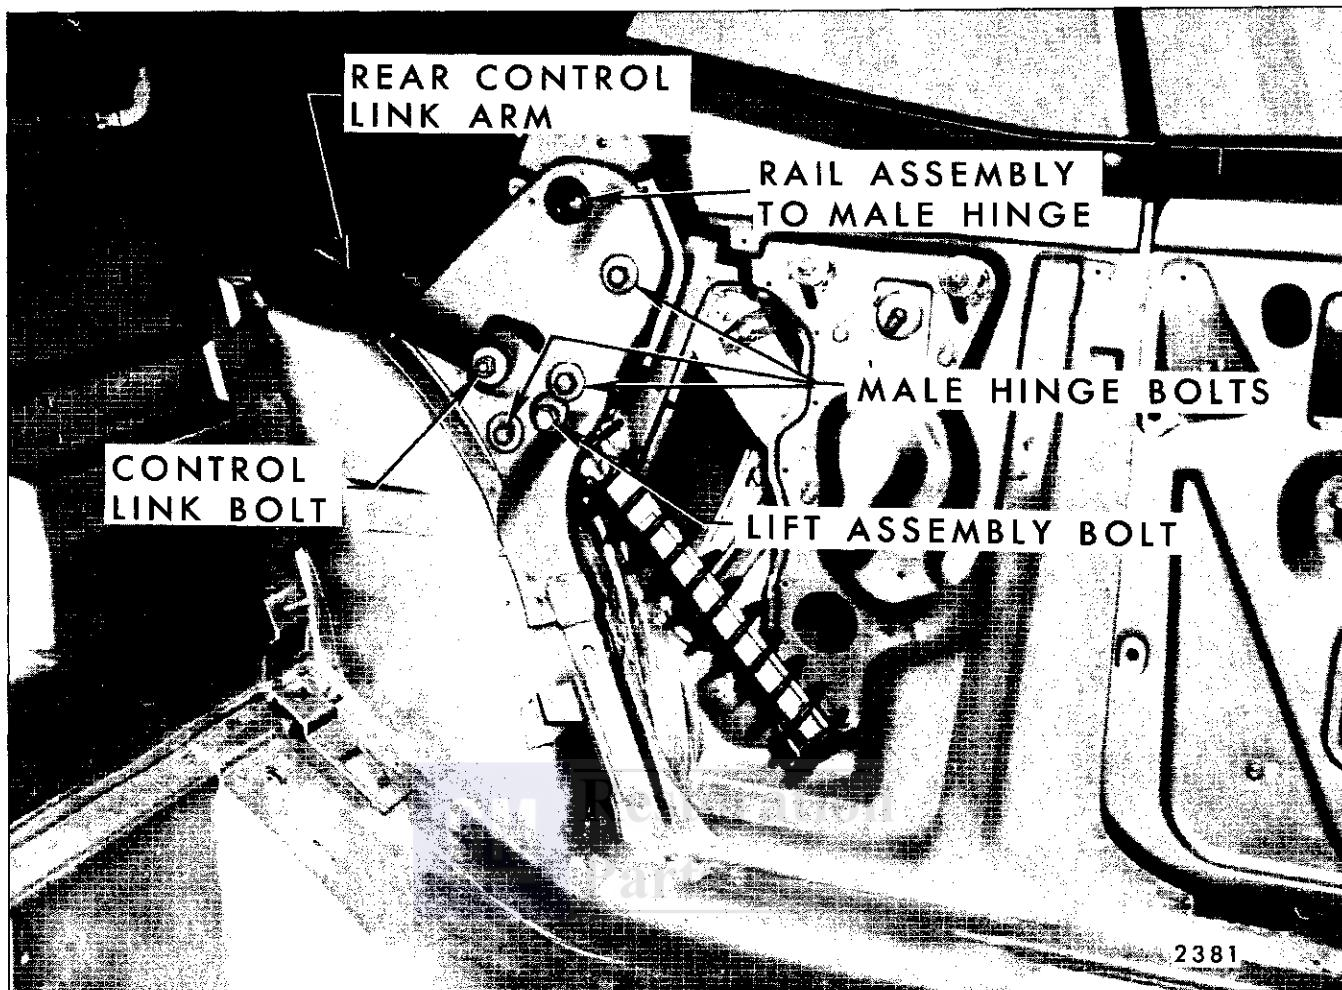

Fig. 13-82—"F" Body Convertible Top Linkage Attachments
- b. Loosen one bolt securing control link sufficiently to permit adjustment of link (See Fig. 13-82).
- b. Loosen male hinge assembly (Fig. 13-82).
- b. Loosen male hinge assembly (See Fig. 13-82).
- c. Rotate male hinge forward to lower stack height or rearward to raise stack height (Fig. 13-82).
NOTE: When rotating male hinge be certain position of rear rail to male hinge is maintained (Fig. 13-82).